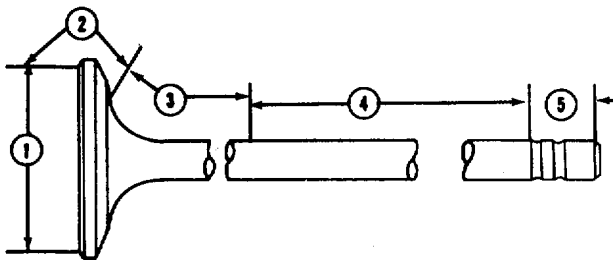

Fig. 2-8 (N10269) Magnetic indication areas of maegnaglo
4. Magnetic indications should be as follows: Reference Fig. 2-8.